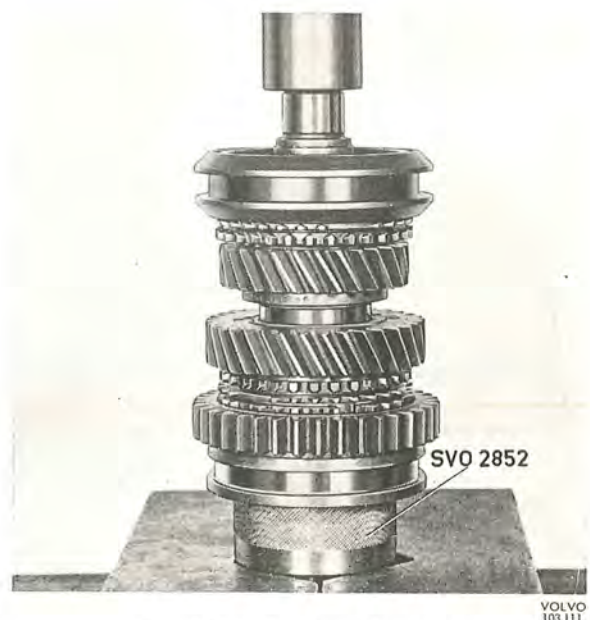

Fig. 4-27. Fitting the synchronizing
wheel and needle bearing. Make sure that the synchronizing flange locates correctly in the grooves in the synchronizing cone. Press the mainshaft into the synchronizing hub as shown in Fig. 4-27. When doing this turn the 3rd speed gear wheel in order to check that this gear as well as the needle bearing fit correctly. Try out a circlip which fills the groove well and fit the circlip.
3. Place 1st-2nd synchronizer, synchronizing cone, 2nd speed gear wheel and needle bearing on ring SVO 2852. Make sure that the gear ring on the engaging sleeve comes forwards and that the flanges fit correctly in the grooves of the synchronizing cone. Press in the mainshaft, see Fig. 4-27. When doing this, turn the 2nd speed gear wheel to prevent it from fastening. Try out a cir-